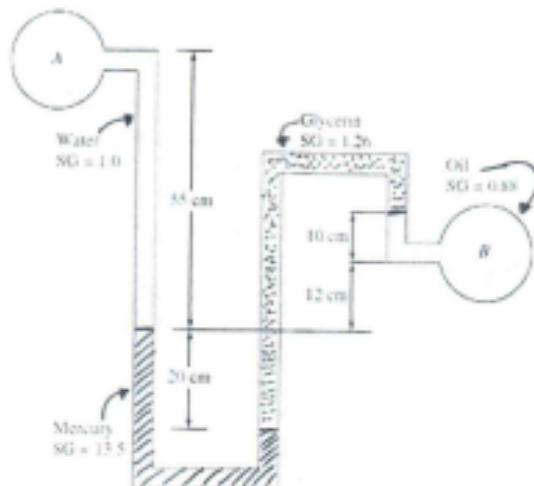

Fig.1
- c) The pressure difference between an oil pipe and waterpipe is measured by a double-fluid manometer, as shown in Fig.1. For the given fluid heights and specific gravities, calculate the pressure difference $\Delta P = P_B - P_A$. (5 marks)